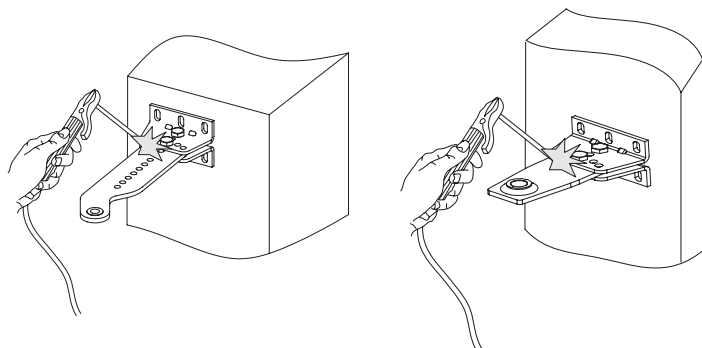

Figure 10. Welding front and rear fittings
- check the drive installation and weld the parts of the front and rear fittings (*fig. 10*), making sure to protect the drive from the welding effects. Protect the welded spots from corrosion by applying a protective coating.